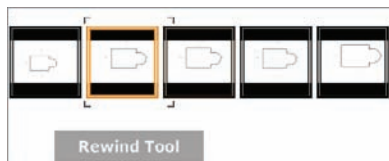

FIGURE 1.38 Because Revit doesn't include zoom commands in the Undo function, you can rewind to find previous views.
3. Click and hold Rewind in the steering wheel. You can now find an older view, as shown in Figure 1.38.